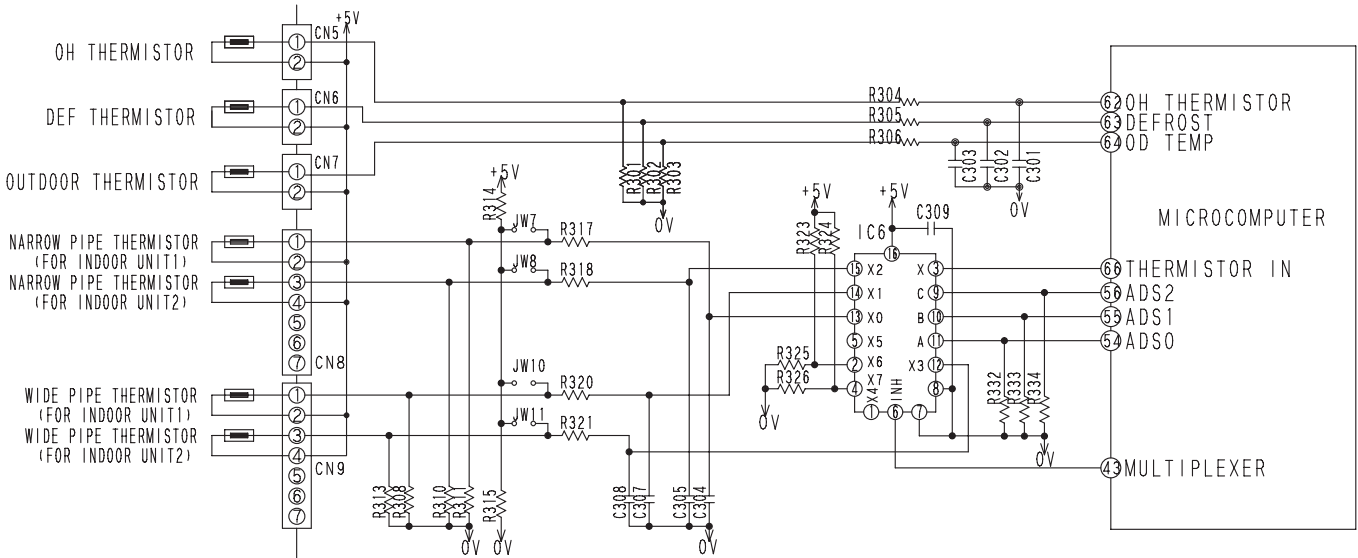
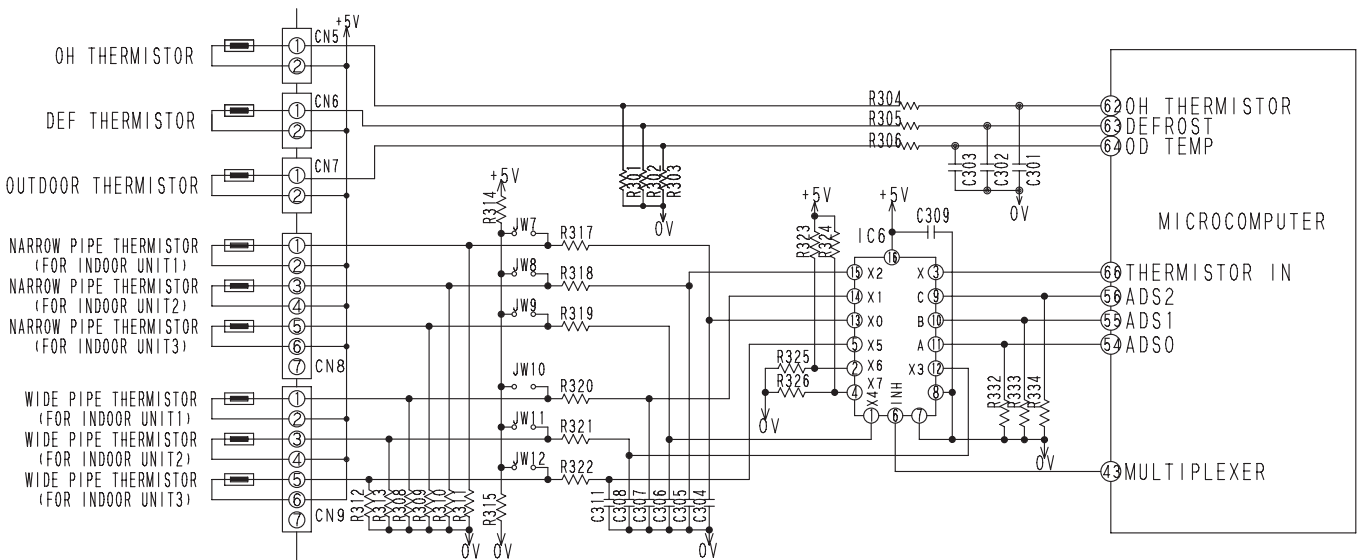

Fig. 10-1 Temperature Detection Circuit
Fig. 10-2 Temperature Detection Circuit
- The circuit of the thermistors is shown as Fig. 10-1 for model RAM-55QH4, Fig. 10-2 for model RAM-65QH4, and their roles and temperature measuring points are shown as Table 10-1.